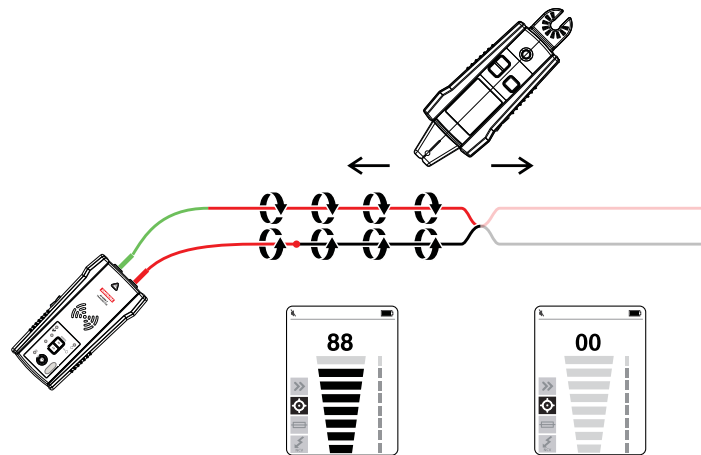

Figure 4.3: Tracing a cable to find shorts
1. Connect the Transmitter with the test leads to the circuit as shown in Figure 4.3.